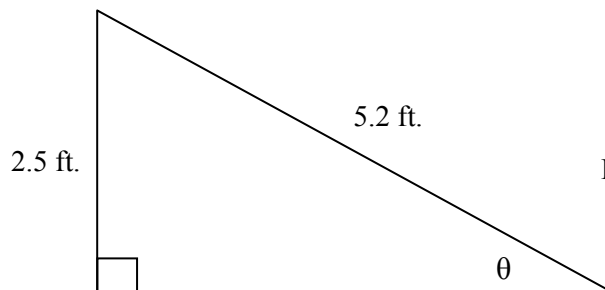

Figure 7-2: Right triangle
2. In this example, in Figure 7-2, we are solving for the value of angle  $\theta$ . We already know the length of two sides and one angle (the right angle), which is sufficient.